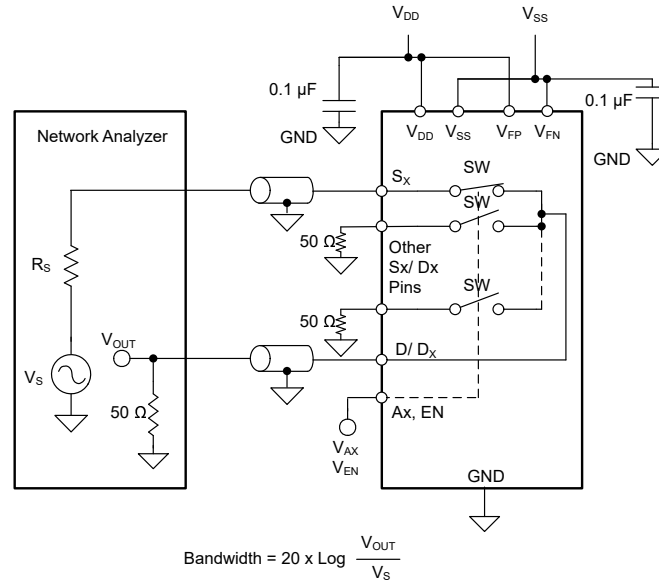

**Figure 7-16. Bandwidth Measurement Setup**
Bandwidth (BW) is defined as the range of frequencies that are attenuated by < 3 dB when the input is applied to the source pin (Sx) of an on-channel, and the output is measured at the drain pin (D or Dx) of the TMUX7348F-EP. Figure 7-16 shows the setup used to measure bandwidth of the switch.